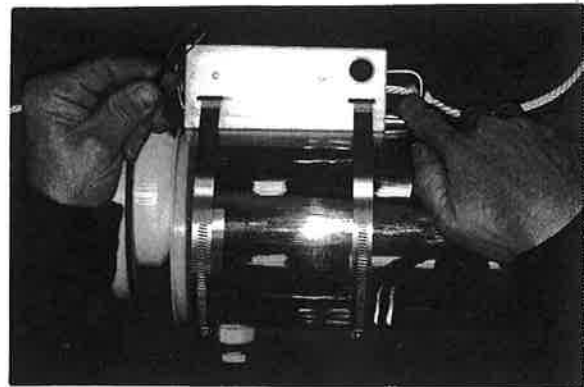
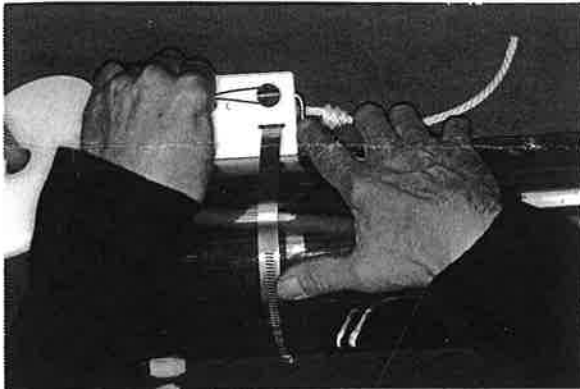

Figure 2
Figure 3
3. Each end seal is loaded separately starting with the top seal. Use your index finger to pull the arming rod of the release mechanism downward. Pull the top seal out of the sampler cylinder using the lanyard loop. Please note; you do not have to over stretch the latex internal closure during this procedure. Use the cylinder edge as a "resting point" (figure 2). Proper arming will extend the life latex tubing. Insert the lanyard "loop" inside the hole in the closing mechanism. Release the arming pin to hook the loop (figures 3 and 4).